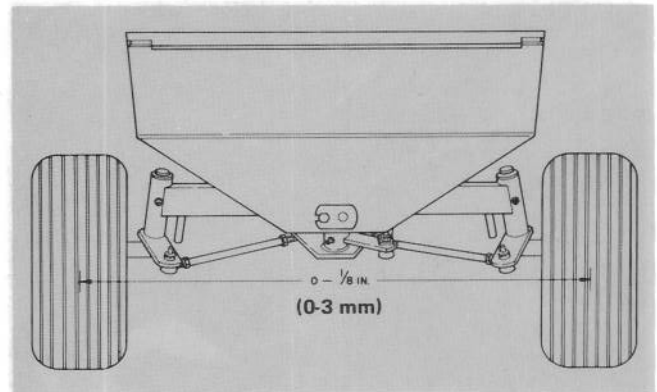

Figure 38
2. Loosen the jam nuts on both tie rods (Fig. 38). Adjust both tie rods until center-to-center distance (Fig. 38) at front of rear wheel is 1/8 of an inch (3 mm) less than that at back of rear wheel.
3. When toe-in of rear wheels is set correctly, tighten jam nuts against tie rods (Fig. 38).